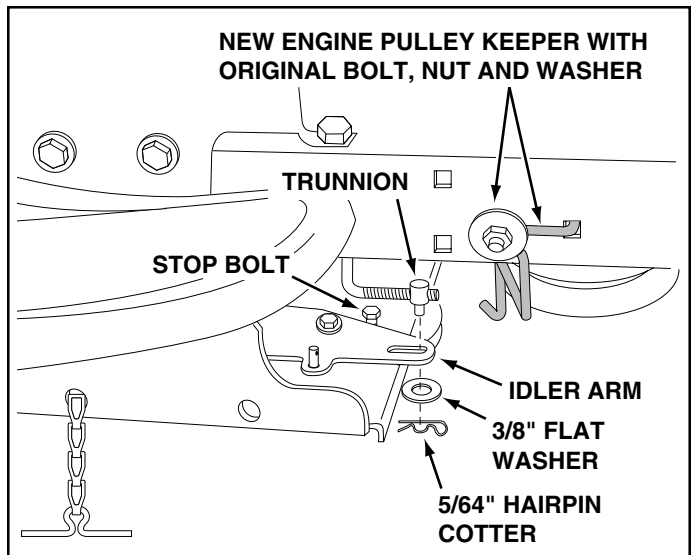

FIGURE 13 RIGHT SIDE VIEW
8. Pivot the upper idler arm so that it rests against the stop bolt and is pointing toward the front as shown in figure 13. Screw the trunnion along the threads of the engagement rod until it is aligned at the front end of the idler arm slot. Attach the trunnion to the slot using the 3/8" flat washer and a 5/64" hairpin cotter. See figure 13.
9. Remove the engine pulley keeper from the side of the tractor frame by removing the washer and nut that secure the keeper. Attach the new pulley keeper supplied with the snow thrower, reusing the original bolt, washer and nut. See figure 13.